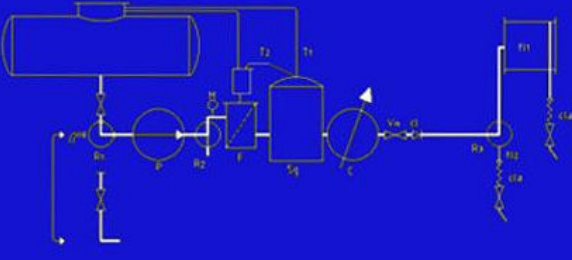

Figure 4 Example of system identification plate
- Figure 4 Example of system identification plate